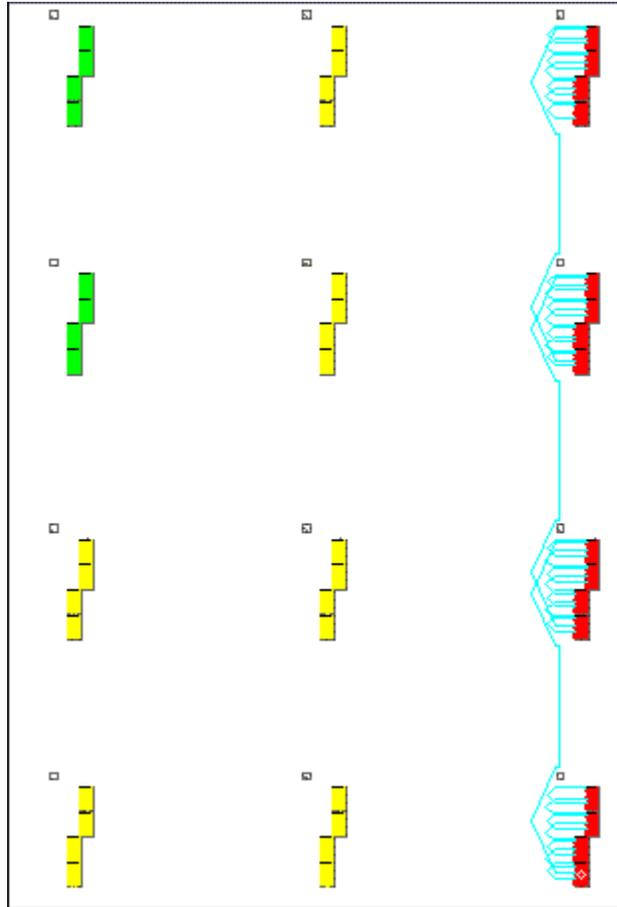

Figure 5: Correct Placement of tap\_dly Circuits
6. If the tap delay circuit is properly constrained, the logic is located in a single column in four sequential Configurable Logic Block (CLBs). This will indicate the RLOC\_ORIGIN is correct. Figure 5, page 79 is a screen capture showing an example of the correct placement of the tap\_dly circuits.